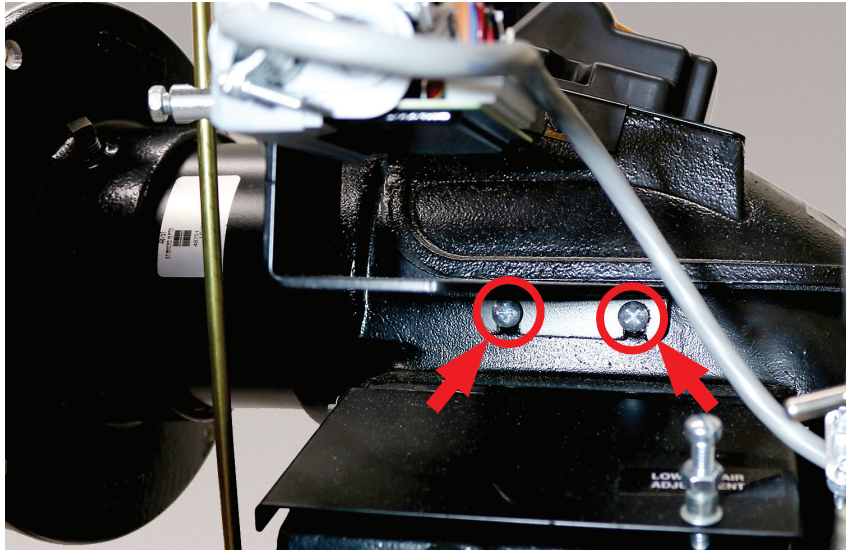

FIG. 2
- 6 Remove the Honeywell damper motor from the burner (including its wiring from the oil valve junction box). Install the Siemens damper motor/ bracket (51317S1 assembly) by starting the two screws supplied in the burner chassis then slide the bracket slots over them and tighten (see Fig. 2).